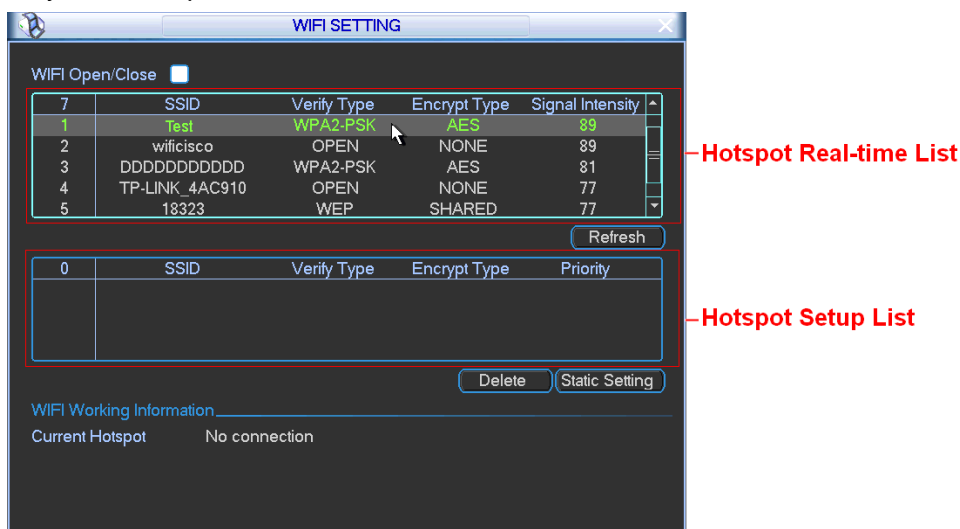

Figure 4-25
The WIFI interface is shown as below. See Figure 4-25.
- In Figure 4-25, click Refresh button to view the entire WIFI signals available.